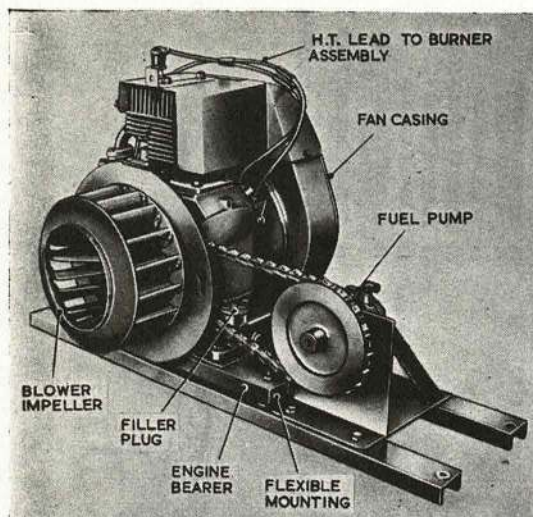

Fig. 7. ENGINE BLOWER AND PUMP ASSEMBLY
13. Power to drive the blower and fuel pump, and current for the h.t. electrode in the fuel burner assembly are supplied by a Villiers, Mk. 25, single cylinder, air-cooled gasoline engine; detailed information is given in A.P. 2173A, Vol. 1 and Vol. 6, Part 1, Sect. 11, Chap. 1. It differs slightly from other Villiers Mk. 25 engines in that it incorporates an additional h.t. lead (Fig. 7). The engine is mounted on bearers in the engine compartment, the bearers being secured to the chassis by flexible rubber mountings. An earthing strip connects the bearer electrically to the chassis.